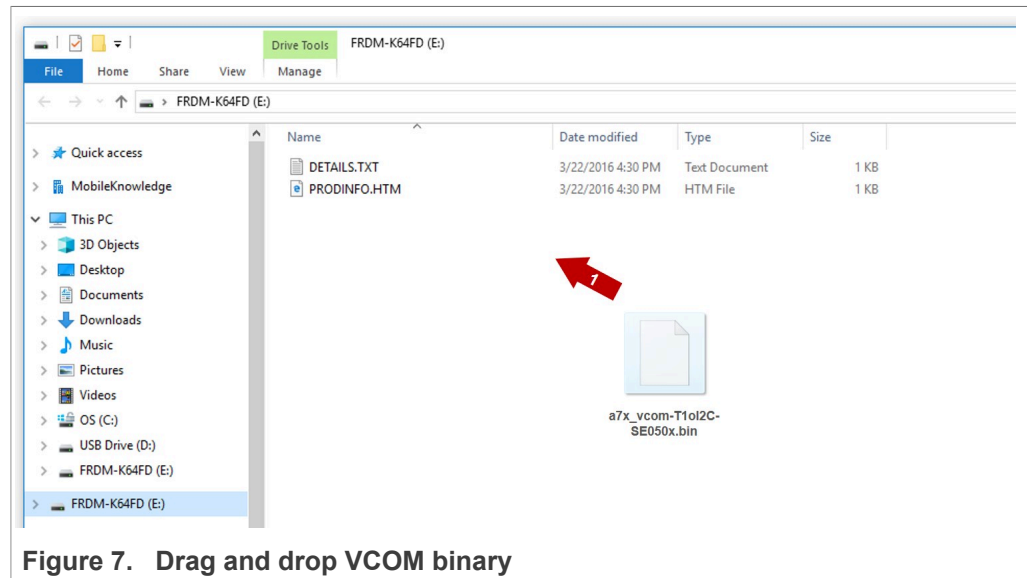

Figure 7. Drag and drop VCOM binary
4. Drag and drop or copy and paste the `a7x_vcom-T1oI2C-frdmk64f-SE050x.bin` file into the FRDM-K64F drive from your computer file explorer as shown in Figure 7: